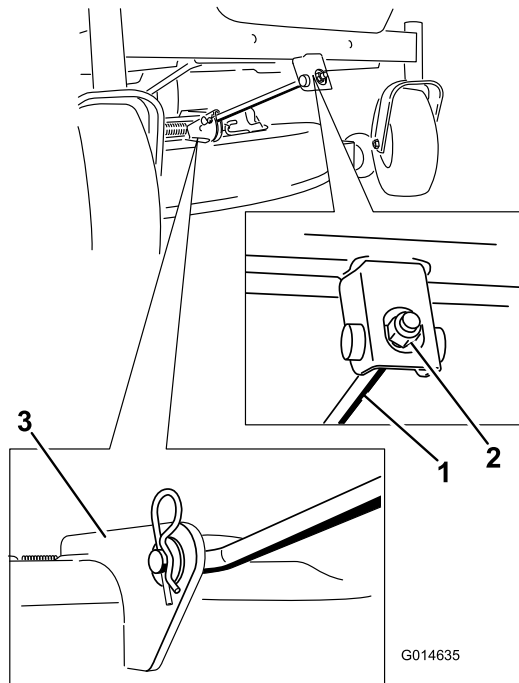

Figure 57
4. Remove the hairpin cotter from the front support rod and remove the rod from the deck bracket (Figure 57). Carefully lower the front of the mower deck to the ground.
6. Attach the front support rod to the mower deck with the clevis pin and hairpin cotter (Figure 57).